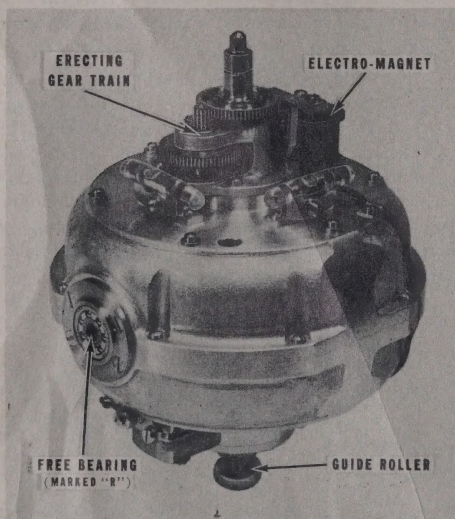

Fig. 16—Gyro Rotor and Case Assembly, closed
3. The rotor case is suspended between ball bearings which permit the case to tilt freely around a horizontal axis. One of these bearings, called the "locked bearing," is rigidly mounted in the case; the other is free to slide a little in its socket to allow for uneven expansion of the rotor case due to temperature changes. This entire assembly, including the erecting gears and mechanism (to be described later), is shown in Fig. 16.